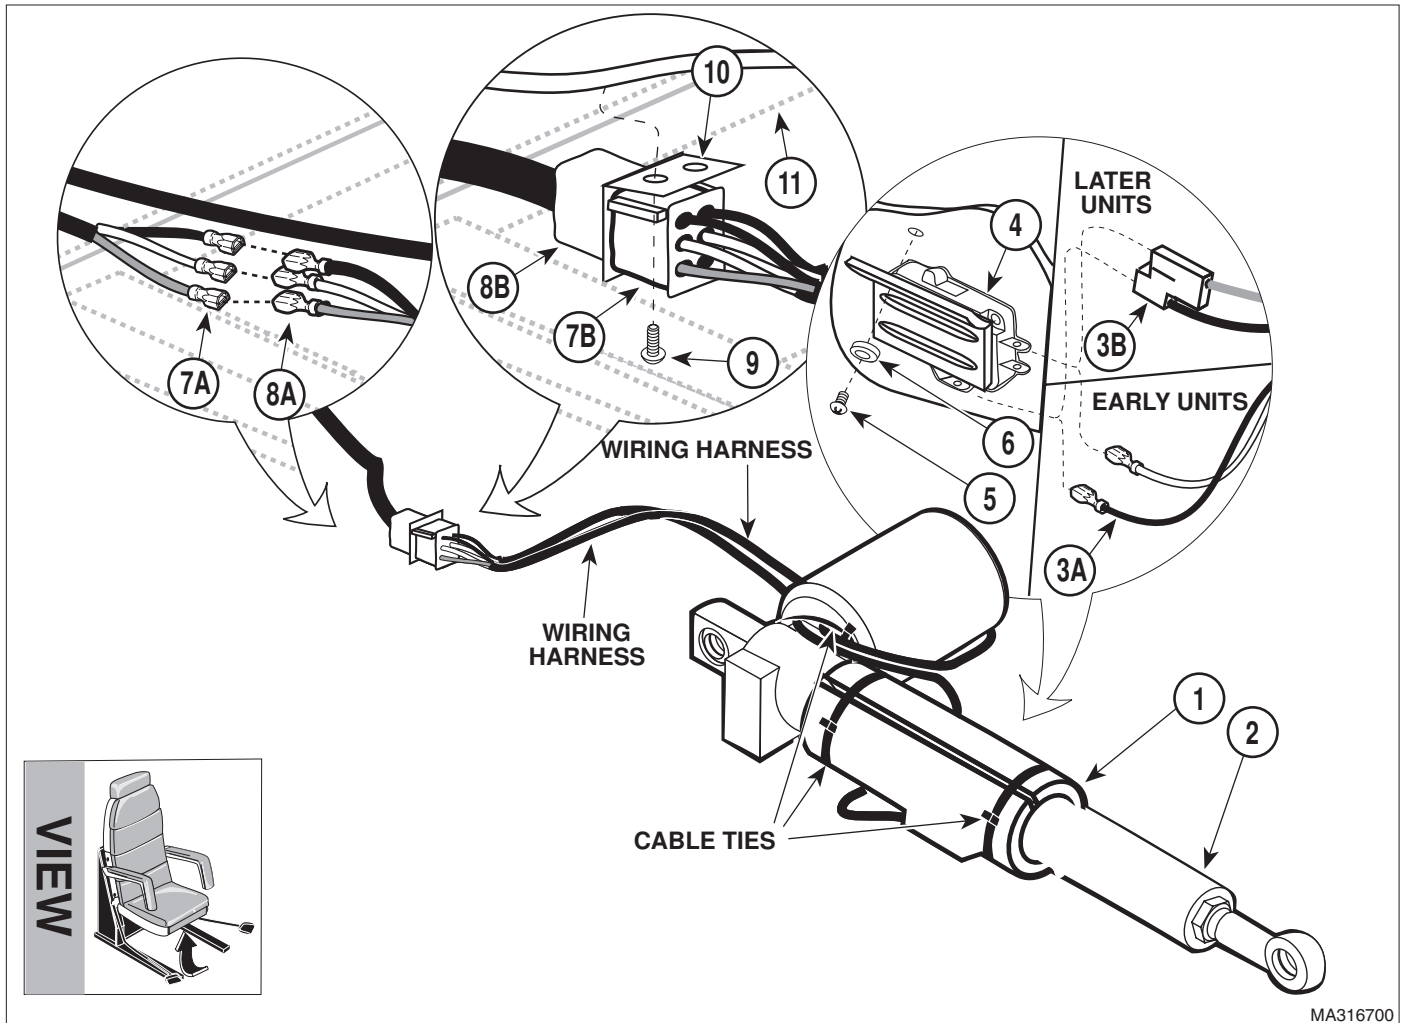

Figure 4-2. Seat Actuator Wires Disconnection / Connection
- (2) Unplug chair power cord from wall outlet.
- (3) Remove two cable ties and remove actuator sleeve (1, Figure 4-2) from shaft of seat actuator (2).
- (4) On early units, tag and disconnect two wires (3A) from terminals of seat up limit switch (4).
- (6) On later units, install receptacle bracket (10, Figure 4-2) on pivot frame (11) and secure with two screws (9).